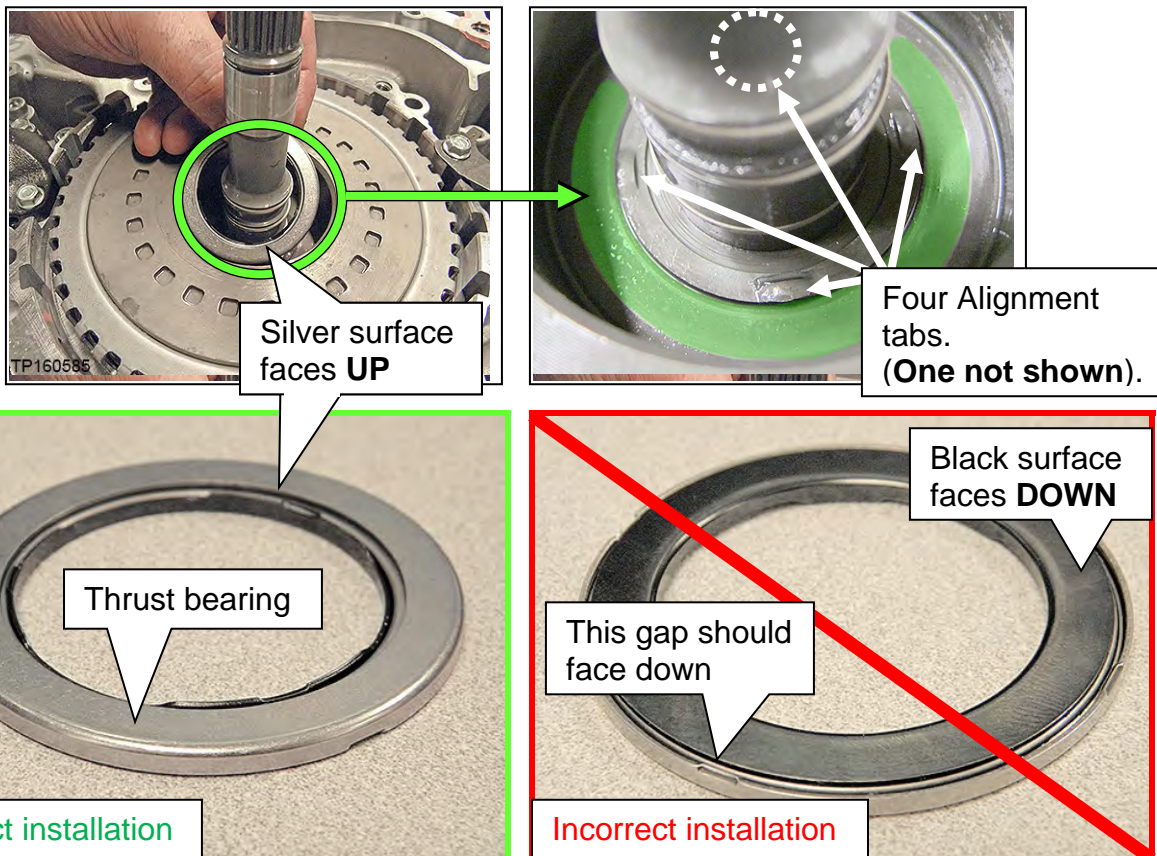

Figure 10G
7. Install the thrust bearing flush to the clutch assembly bore as shown in Figure 10G.